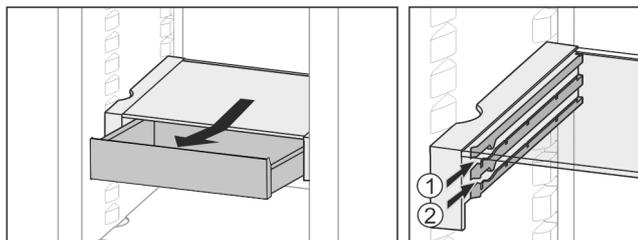

Fig. 18
- ▶ Slide in at any height Fig. 18 (1) or Fig. 18 (2).